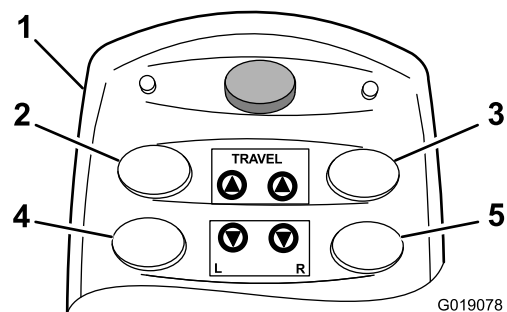

Figure 43
- To move the machine **forward**, press and hold the left, forward-traction button and the right, forward-traction button (Figure 43).
- To move the machine **backward**, press and hold the left, reverse-traction button and the right, reverse-traction button (Figure 43).
- To turn the machine **left**, press and hold the left, reverse-traction button and the right, forward-traction button (Figure 43).
- To turn the machine **right**, press and hold the left, forward-traction button and the right, reverse-traction button (Figure 43).